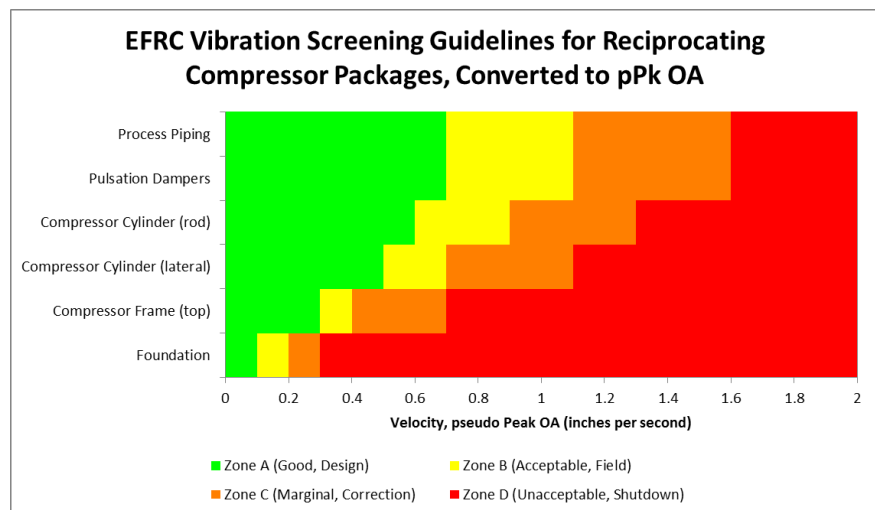

Figure 3. EFRC Vibration Guidelines Converted to pseudo Peak Overall Velocity
Vibration guidelines for skid members can vary depending on the situation. Many equipment vendors specify a maximum allowable vibration at the equipment mounting locations. A spectral guideline of 0.1 in/s peak (25.4 mm/s peak) is common. Figure 3 shows the European Forum Reciprocating Compressors (EFRC) overall (OA) screening guideline for different areas of a reciprocating compressor. (The guideline is in pseudo Peak because it has been converted from an RMS guideline.) Note that the components that are closer to the foundation typically have a lower allowable vibration guideline.